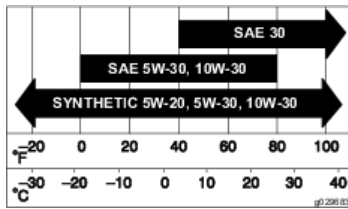

Figure 39
2. Carefully slide the filter into the air-cleaner body (Figure 39).
3. Install the air-cleaner cover and secure the latches (Figure 39).